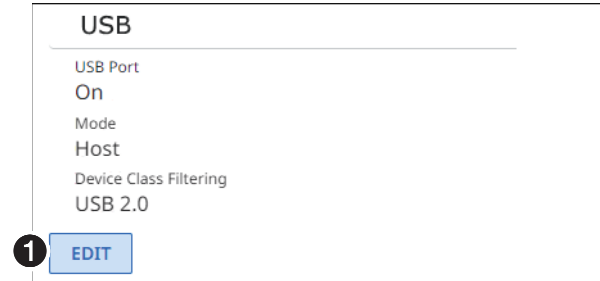
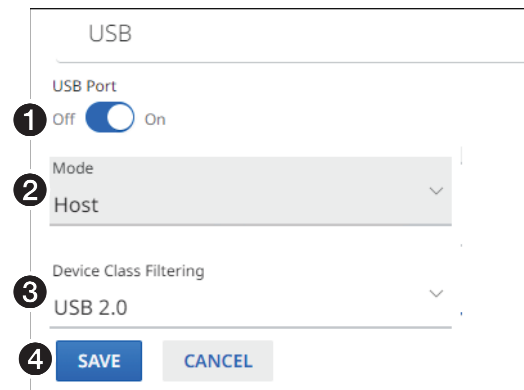

Figure 54. USB Selection
Figure 55. Editable USB Selection
The USB selection on the **Device Settings** page (see figure 45 on page 45) opens a read-only pane (see figure 54) that shows the status of the USB 2.0 port (see F on page 6). The port can be turned on and off and it can be configured by clicking the **Edit** button (1). An editable version of the selection opens (see figure 55).